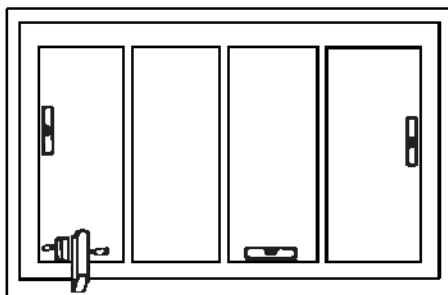

Figure 4
5. If necessary loosen clamp and wedge from rear of frame with a screwdriver until sides are square. Hold in place with clamp. Fasten bottom, top and sides with No. 10 X 1 1/2" wood screws. Do not tighten or distortion may occur. Caulk perimeter of frame on refrigerated side. Refer to Figure 4 .